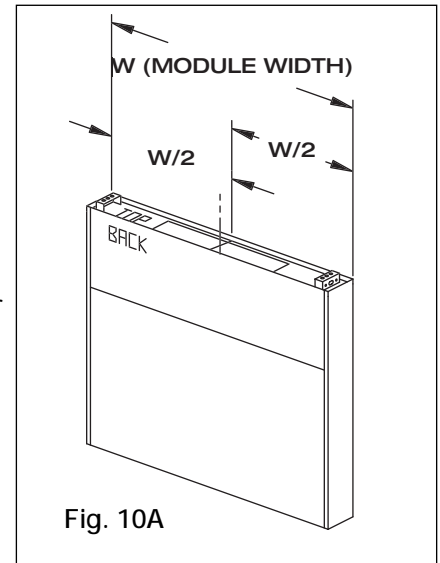

Fig. 10A
2. If the Backsupply Plenum is less than 9 ft. 10 in. wide, cut opening at the suggested location, centering the opening over the center of the backsupply Plenum. (see Fig. 10A)